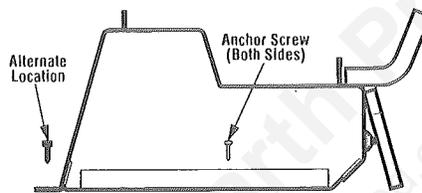

Figure 8
Anchor the grate to the fireplace/firebox floor with the two (2) screws provided (Figure 8).